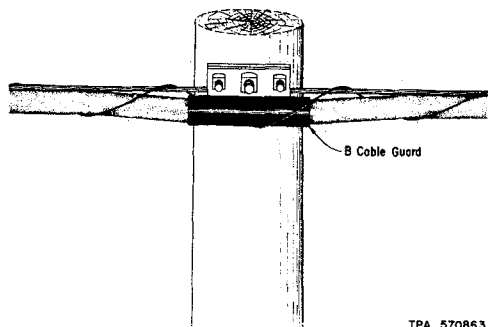

Fig. 15—B Cable Guard Installed Where Lashing Wire Is Continuous
- (b) Where the lashing wire is continuous, place the cable guard around the cable and under the lashing wire at the location where the abrasion is likely to occur as shown in Fig. 15.